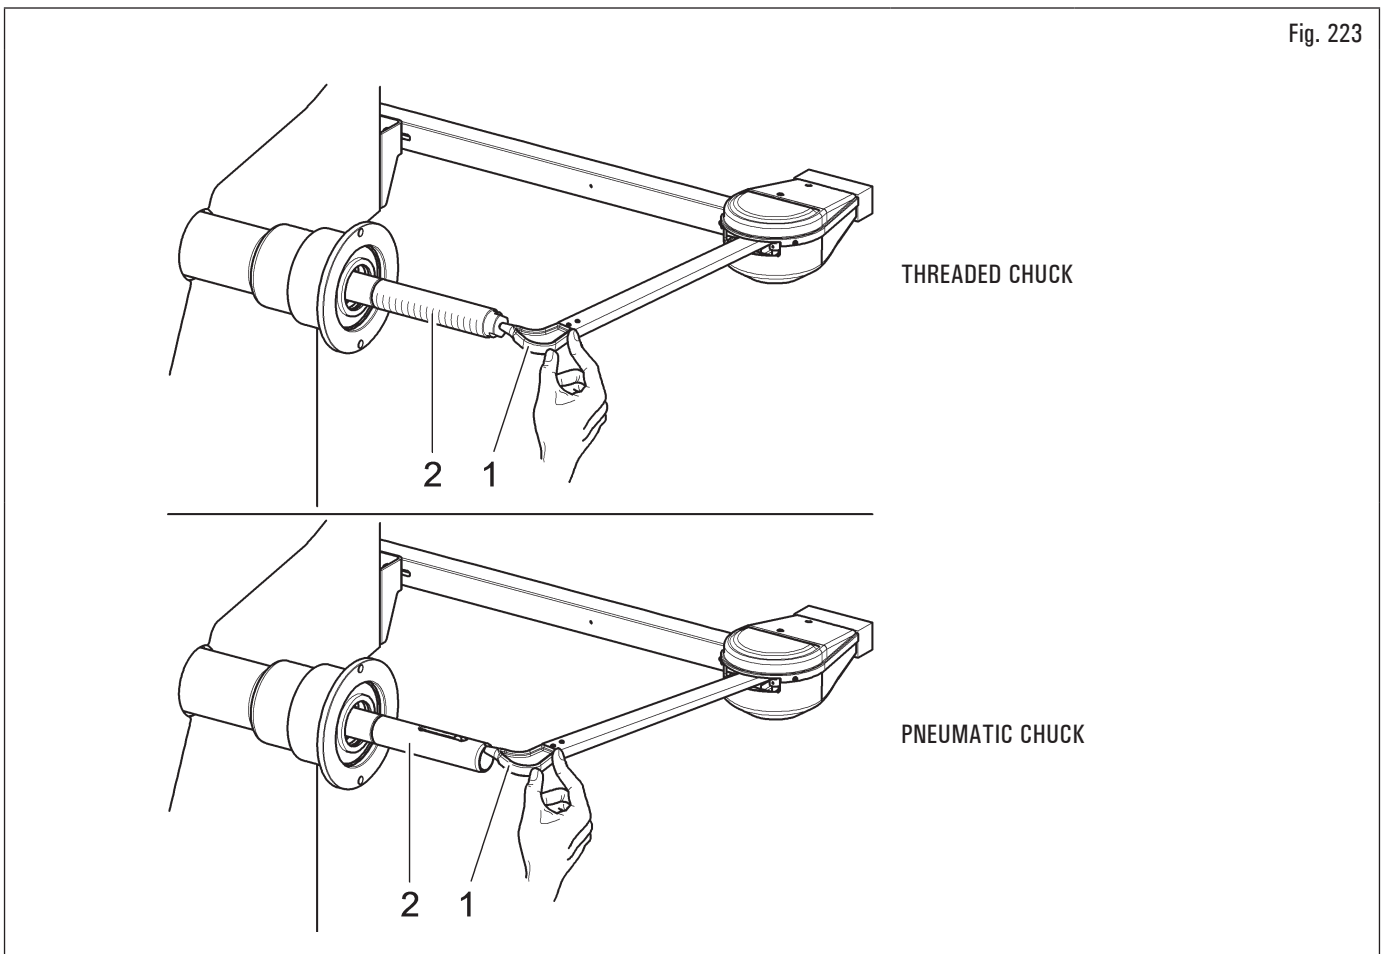

Fig. 223
Move the tip of the width measuring device (Fig. 223 ref. 1) by the chuck end (Fig. 223 ref. 2) (in case of pneumatic chuck, move it next to upper edge of the open chuck).